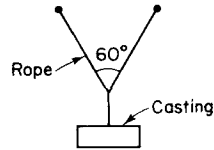

Fig. 2.29
26. Fig. 2.29 shows a casting supported by two ropes. If the maximum force in each of the ropes must not exceed 500 N, what is the greatest weight of casting that can be supported? What mass can be supported?